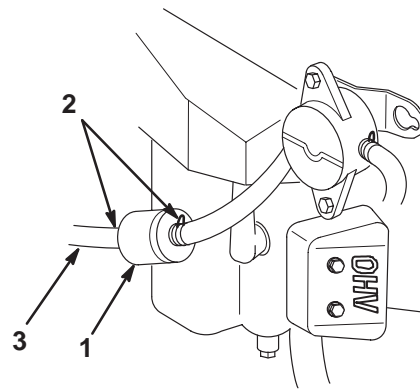

Figure 29
3. Squeeze the ends of the hose clamps together and slide them away from the filter (Fig. 29).
5. Install a new filter and move the hose clamps close to the filter (Fig. 29).
3. Loosen the hose clamp at the fuel filter and slide it up the fuel line away from the fuel filter (Fig. 29).
4. Pull the fuel line off of the fuel filter (Fig. 29).
6. Install the fuel line onto the fuel filter. Slide the hose clamp close to the fuel filter to secure the fuel line (Fig. 29).